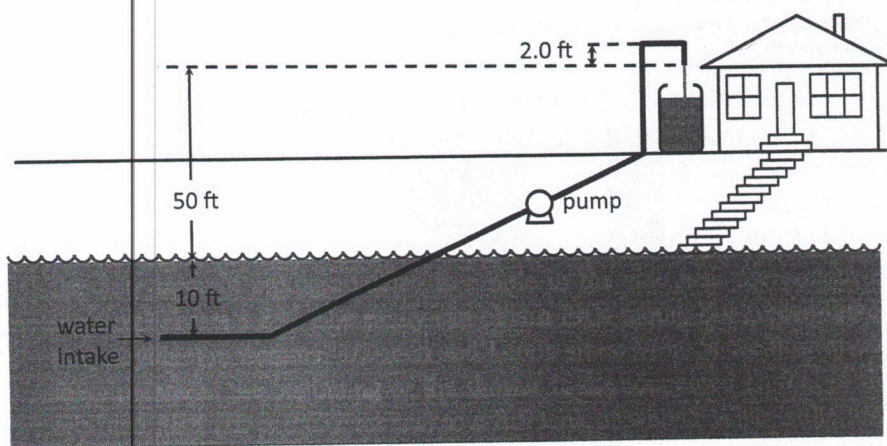

Figure 1.54
30. Your grandfather has a cottage at the lake and wants to install a pump to deliver water to the house. He plans to pump water at night to fill a storage tank that he installed next to the cottage (Figure 1.54). The pipes and fittings he chose to use for the installation are listed in the table given. The pumps in the catalog your grandfather consulted are rated by their value of horsepower (hp). What is the minimum hp rating of a pump capable of providing a flow